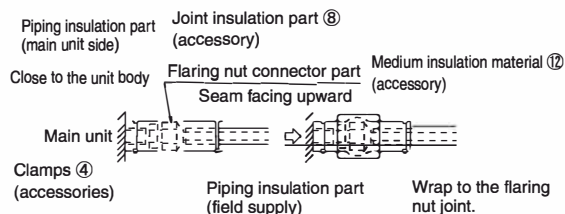

Figure 12
- (2) After piping connection is finished, check if gas leaks.
- (3) After checking that there is no gas leakage, insulate the piping connector part properly with insulation material. (Refer to Figure 12)
- When performing insulation, attach the included joint in insulation parts (8) and (9) to the liquid side piping and gas side piping. in addition, make the seams of the joint insulation parts (8) and (9) face upward. (Pinch both ends with the clamps (4).)
- For the liquid side piping and gas side piping, wrap the medium insulation material (11) and (12) to the joint insulation parts (8) and (9). (Flaring nut part) For piping connected locally, wrap the insulation material till the piping connections. The naked piping may result in condensation and burns.